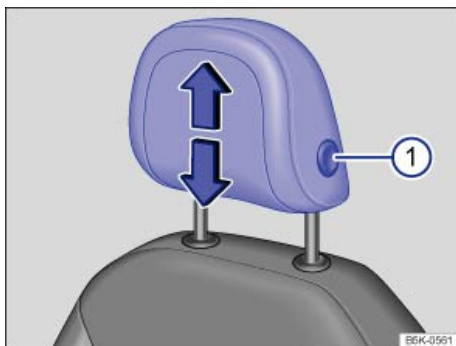
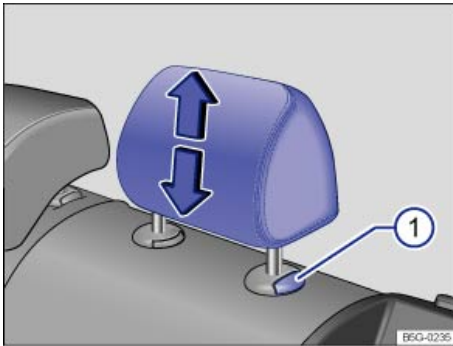

Fig. 39 Adjusting the front head restraints.
Fig. 40 Adjusting the rear head restraints.
- Pull the head restraint up in the direction of the arrow, or push it down while pressing the button ⇒ fig. 39 \(1\) or ⇒ fig. 40 \(1\) ⇒ ⚠.